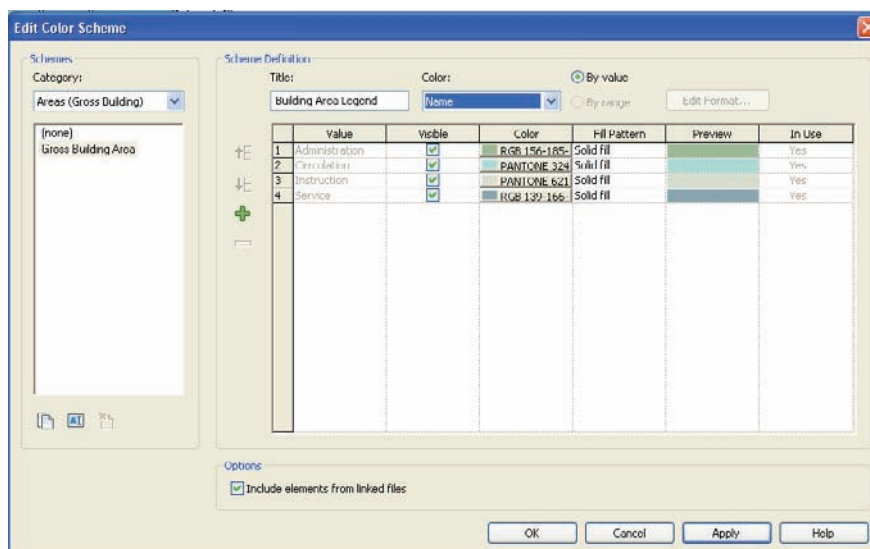

Figure 11.15
12. Select the legend. On the Modify | Color Fill Legends tab's Scheme panel, click the Edit Scheme button. This will open the Edit Color Scheme dialog box (Figure 11.15).